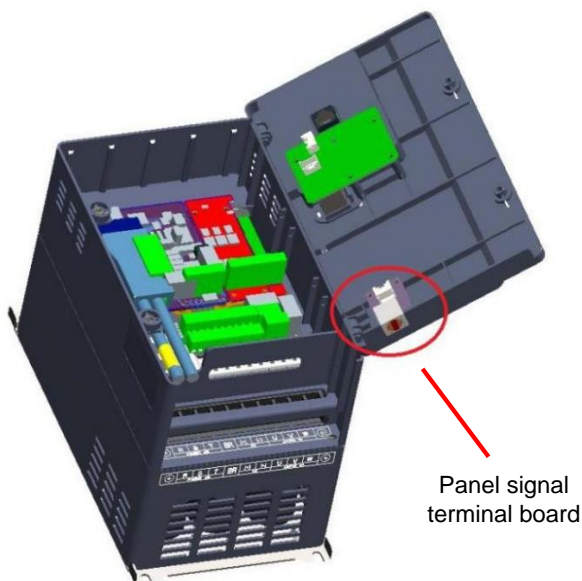

Figure 3-21 Panel signal terminal board installation diagram (models from 2.2kW to 11kW)
- ① For models from 2.2kW to 11kW, the panel signal transfer board is installed on the back of the cabinet door, as shown in the Figure 3-21.